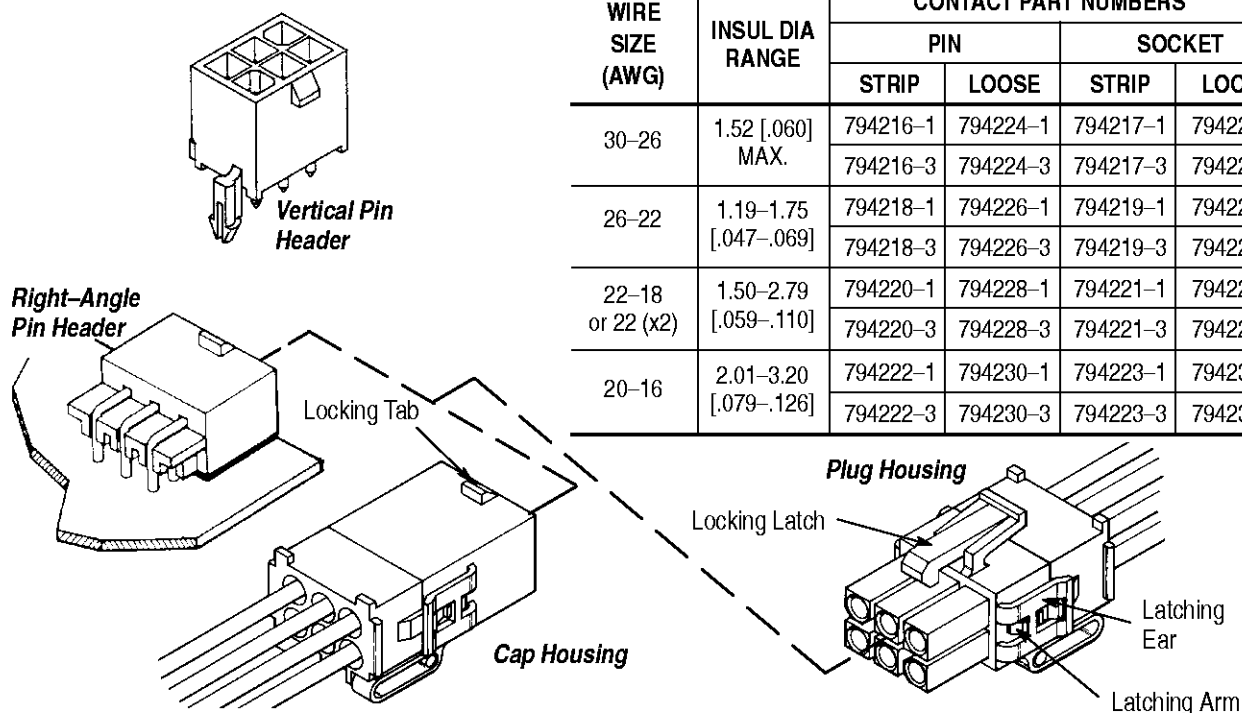

Figure 1
This instruction sheet provides assembly and disassembly procedures for AMP* Mini-Universal MATE-N-LOK 2 Connectors. Connector components are listed in Figure 1.
1. Select appropriate pin and socket contacts from table in Figure 1. Follow termination procedures shown in Application Specification 114-1111.
- Added part numbers to table in Figure 1